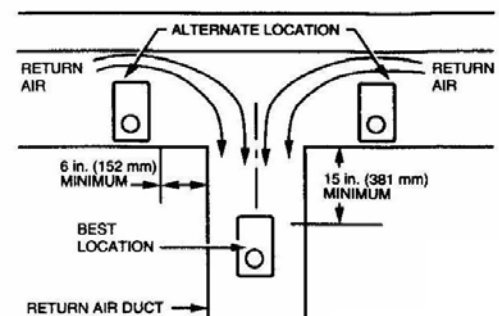

Figure 1 - Selecting Duct Location for Control
IMPORTANT - *When mounting near an elbow area, locate the control six inches (152 mm) upstream from the elbow so the element is exposed to the normal airflow (Figure 1).*
1. Locate the control at least 8 inches (203 mm) upstream from the dehumidifier in the return air duct. (See Figure 1).